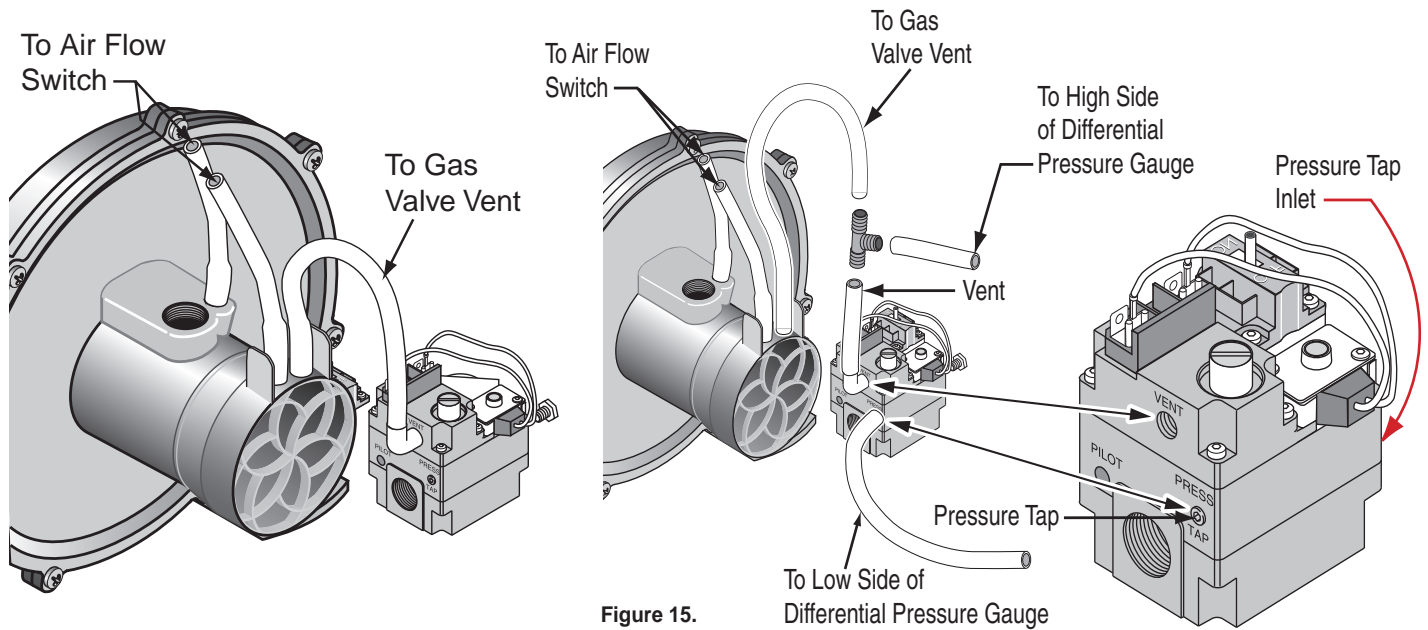

Figure 15.
The heater requires a gas supply of not less than 4 in (10.2 cm) wc, and not more than 10.5 in (27 cm) wc for natural gas, and not more than 14 in (36 cm) wc for propane gas. Gas supply pressures outside of this range may result in improper burner operation. A minimum flowing or dynamic inlet pressure (while the heater is running) of 4 in (10.2 cm) wc is required to maintain input rating with no more than a 2 in pressure drop between static and dynamic. The gas supply must be installed in accordance with the *National Fuel Gas Code, ANSIZ223.1*, or standard *CSA B149.1, Natural Gas and Propane Installation Codes*, as applicable and all applicable local codes. Install a manual shut-off valve and a sediment trap and union located outside the heater panels, see Figure 15. Do not use a restrictive gas cock. The following minimum gas pipe sizes are recommended for natural gas supply piping, see Table 2 on below. For low pressure LP gas, pipe size may be reduced by 1/4-in, with a minimum pipe size of 1/2-in. Check for compliance with local codes.
**CHECKING THE GAS PRESSURE THROUGH THE COMBINATION GAS CONTROL VALVE (See Figure 15):** Before operating the heater, the heater and its gas connections must be leak tested. **Do NOT use an open flame to test for leaks.** Test all gas connections for leaks with soapy water or another non-flammable method.
The combination gas valve incorporates dual shut-off valves and a negative-pressure regulator. For proper operation, the regulated pressure at the outlet manifold of the valve must be  $-0.2''$  ( $-0.5\text{cm}$ ) wc below the reference pressure at the blower mixer inlet, and the gas valve 'VENT' tap must be connected to the end cap air orifice as shown in Figure 15.